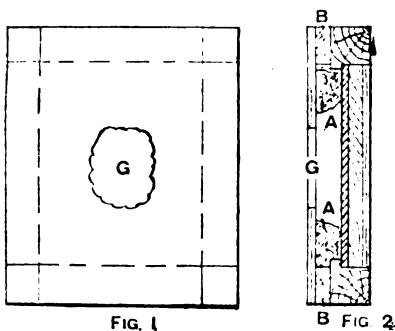

Fig. 1
**Vignetting Photographs.**—If it is required to make a vignette photograph without showing much dark around the head and neck proceed thus. Cut in cardboard (old plate boxes answer well) a vignette considerably smaller than the desired vignette G (Figs. 1 and 2), and fix about  $\frac{1}{2}$  in. from the negative by fastening with drawing pins. To do this, it may be necessary to nail some strips of wood B around the outer edges of the printing frame. Fig. 1 shows a perspective view and